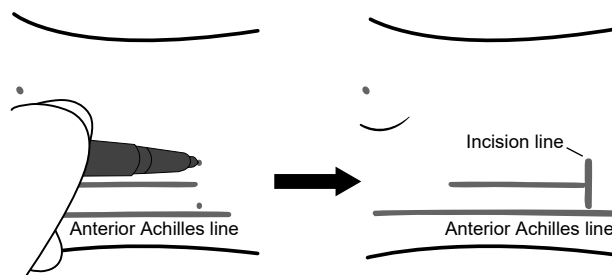

Figure 11. Connecting the marks to create the incision line
9. Remove the pocket dissector and connect the two notch marks from step 8 with a line. This will be the location of the incision and insertion site for the neurostimulator (Figure 11).